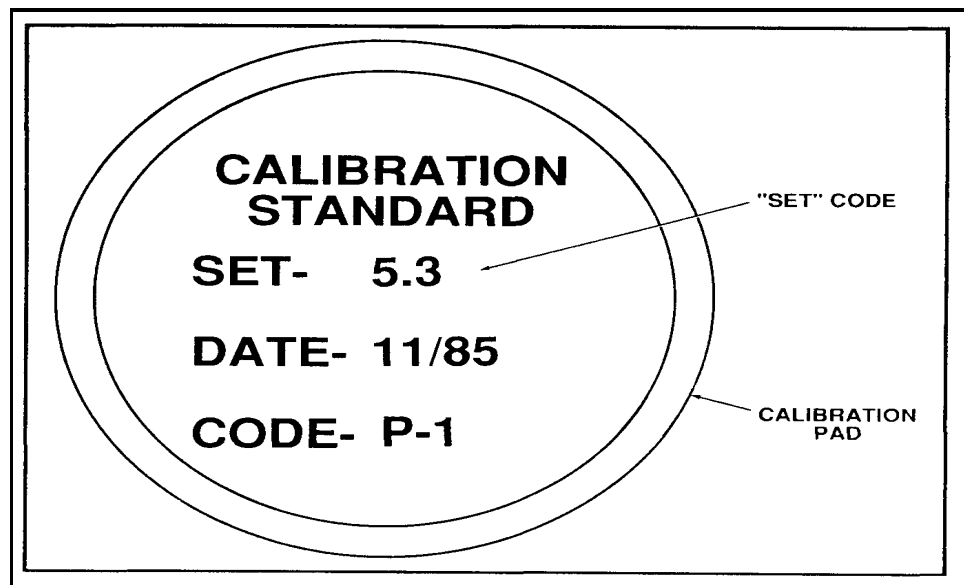

Figure E-3. Calibration pad and calibration set code
- Remove the calibration pad stored in the kit. Always handle the pad with tweezers. The pad is covered with a clear plastic shielding and has a coding standard written on one side. Note the "SET" code in the center of the pad, this is the calibration setting you will use for calibrating. The sample pad in Figure E-3, page E-3, has a calibration set code of "5.3." Ensure that the calibration and fluorescing standard are a matched set. The fluorescing standard located under the hinged light shield has an alphanumeric code, and should match the code on the calibration standard. Although the "SET" numbers on the standards may or may not be the same, the code for the standards must be the same. You should label or mark the detector with the calibration/fluorescing code to ensure the proper pad is used during calibration. Matched standard sets can be ordered under NSN 6630-01-245-5989.